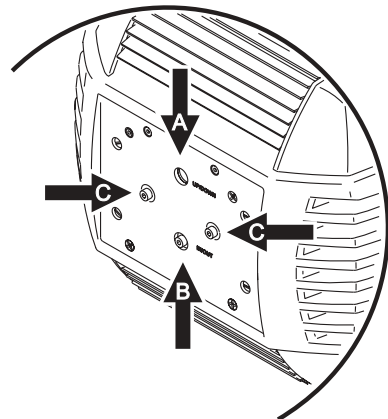

**Figure 5: Lamp adjustment screws**
2. See Figure 5. Center the hot spot vertically using the top Allen-head adjustment screw (A) in the center of the rear plate. Center the hot spot horizontally using the side-to-side adjustment screws (C).
3. If there is an excessive hot spot, turn the bottom adjustment screw (B) counterclockwise until the light is evenly distributed. If the light is brighter around the edge than it is in the center, or if light output is low, turn the bottom adjustment screw (B) clockwise until the light is bright and evenly distributed.